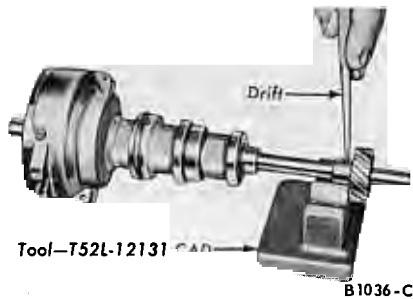
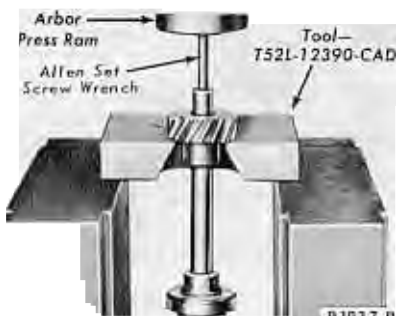

FIG. 6—Gear Pin Removal or Installation
FIG. 7—Gear Removal
14. If the gear and shaft are to be used again, mark the gear and the shaft so that the pin holes can be easily aligned for assembly. Remove the gear roll pin (Fig. 6), and then remove the gear (Fig. 7).
9. Remove the distributor from the press. Install the gear retaining pin (Fig. 6).